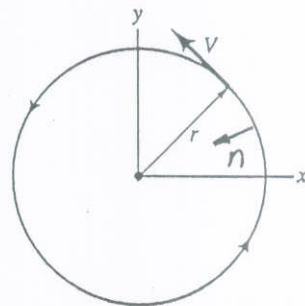

FIGURE P3.16
3.16 Water in a container and air in a tornado flow in horizontal circular streamlines of radius  $r$  and speed  $V$  as shown in Video V3.6 and Fig. P3.16 Determine the radial pressure gradient,  $\partial p/\partial r$ , needed for the following situations: (a) The fluid is water with  $r = 3$  in. and  $V = 0.8$  ft/s. (b) The fluid is air with  $r = 300$  ft and  $V = 200$  mph.